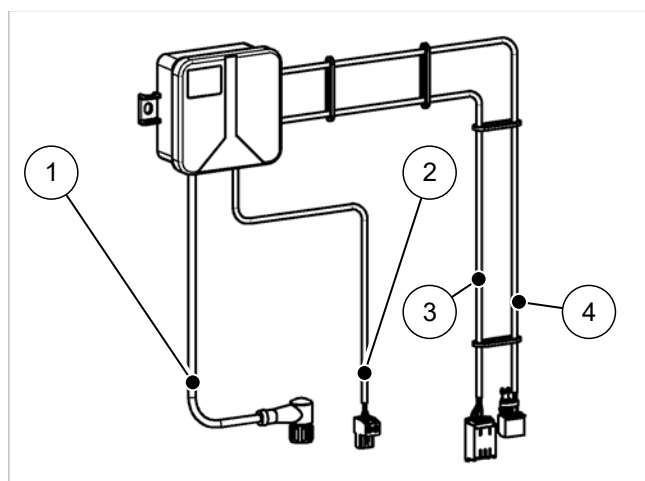

Fig. 17: Volume flow sensor connection box
1. Extend cable 1 (3, see → fig. 17) to the heating pump and connect it there.
2. Extend cable 2 (4, see → fig. 17) to the Modbus junction box.